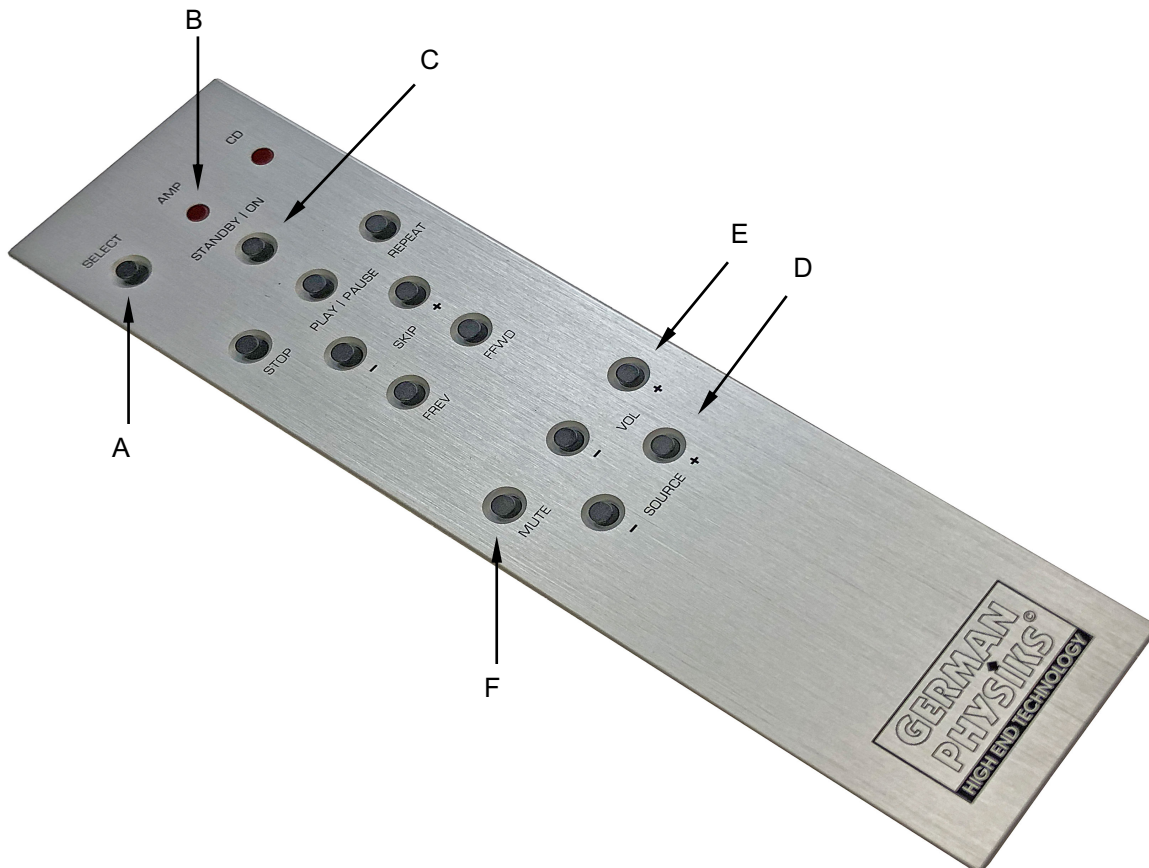

Figure 7. Emperor remote control.
A. **Select:** To use the remote with an Emperor amplifier, press the **Select** button, once or twice, so that the **AMP LED**, figure 7 B, illuminates briefly.